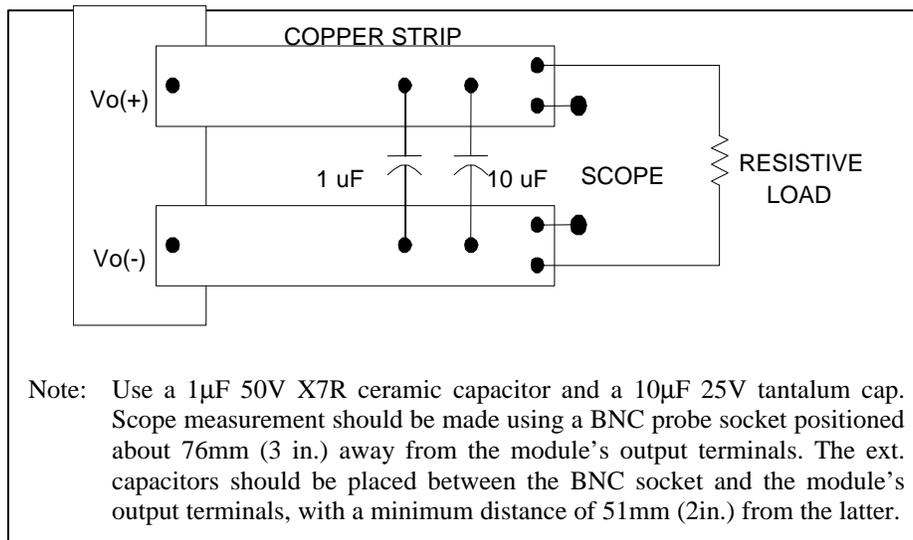

Figure 2. Peak to Peak Output Noise Measurement Setup.
3. Refer to Figure 2 for output ripple measurement setup.